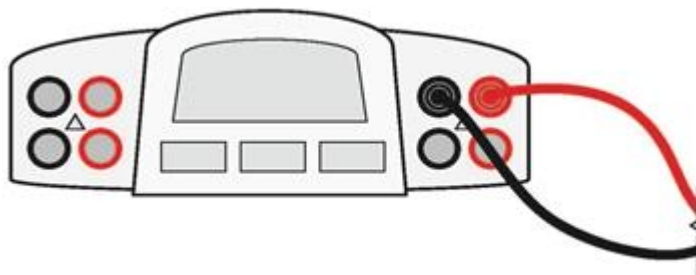

Figure 9.4 Connecting leads from the electrophoresis tank to the powerpack.
11. Connect the electrical leads to the power supply. Connect both leads to the same channel, with negative electrode to negative electrode (black to black) and positive electrode to positive electrode (red to red). See figure 9.4 below.